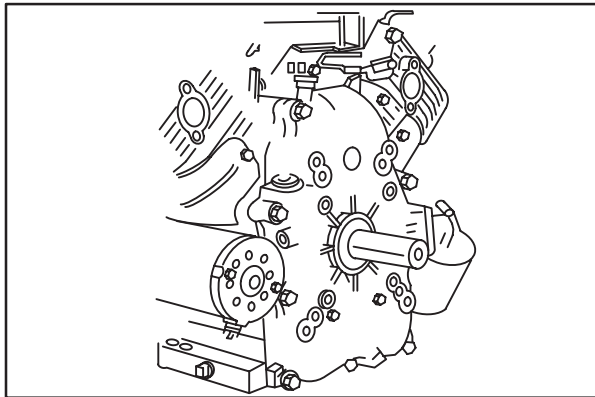

Fig. 6
- Remove crankcase cover, Fig. 6.